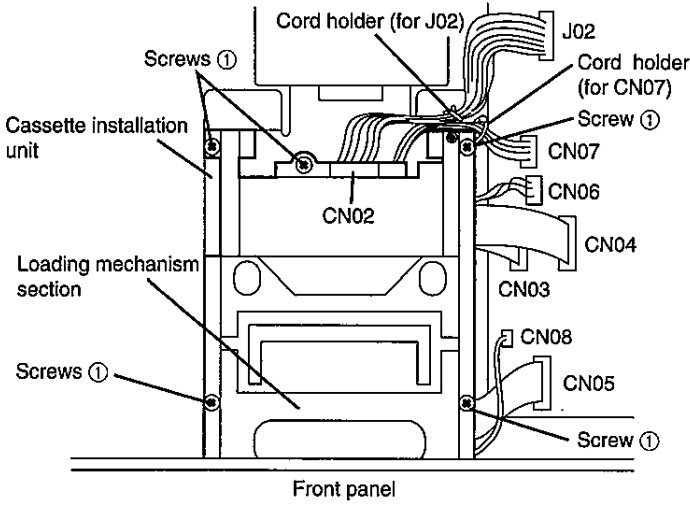

Figure 1
3. Remove the five ① screws and remove the loading mechanism section. (See Figure 1.)